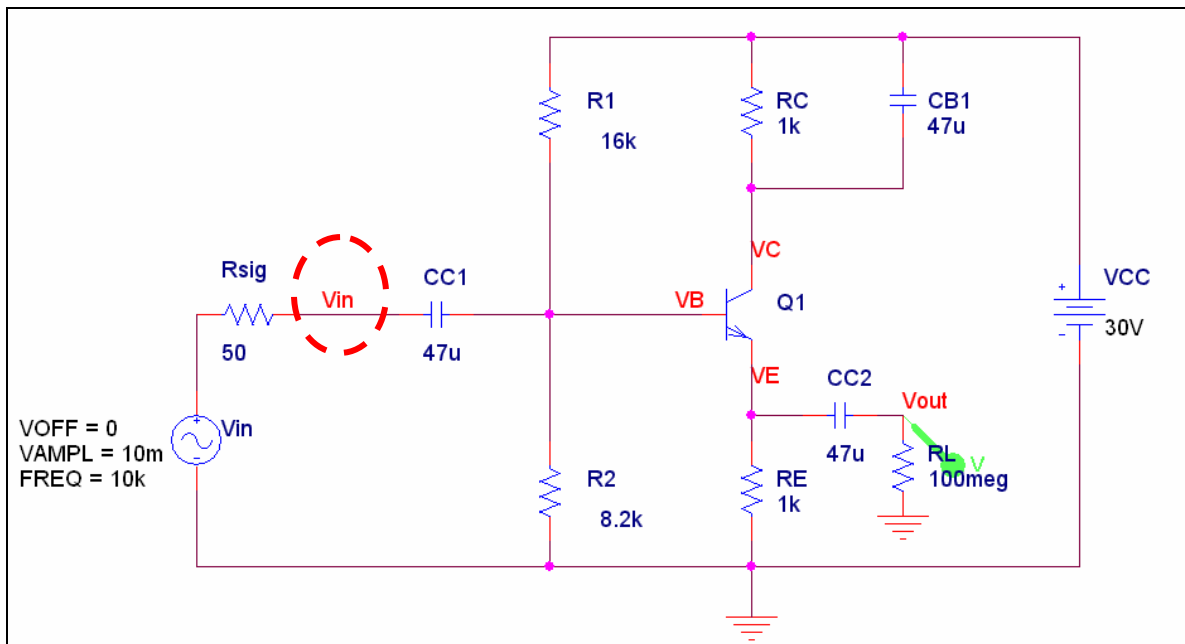

Figure P.3 – Common Collector Amplifier
5. Alter the circuit constructed in P.2 to match the circuit shown in figure P.3. This is known as a Common-Collector configuration. Apply a small input signal (10mV @10kHz) to the base of the transistor, as shown in figure P.3.
- Construct circuit in figure P.3 in using transistor: 2N3904